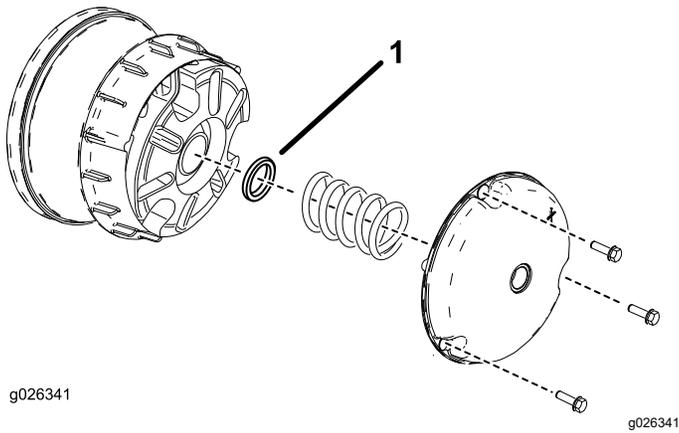

Figure 60
2. Remove the bolts securing the primary clutch cover as shown in Figure 60.